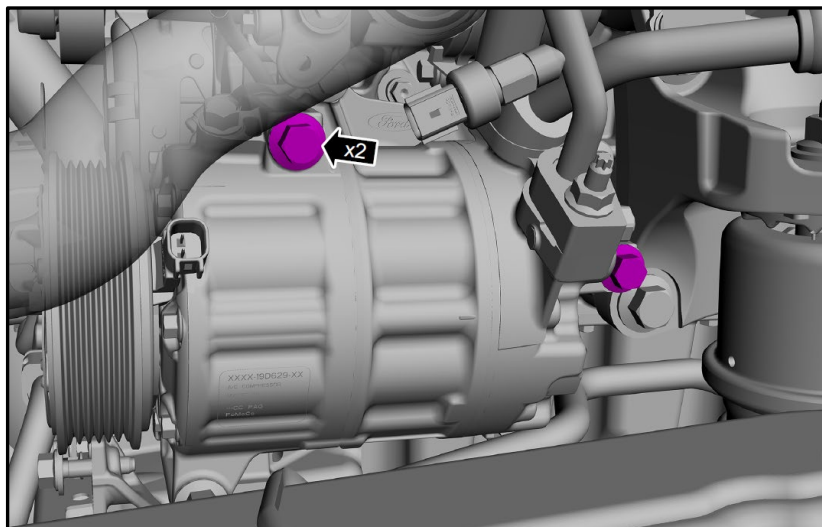

Figure 7
- B. Remove the A/C compressor mounting bolts. Torque: 25 Nm. Figure 7